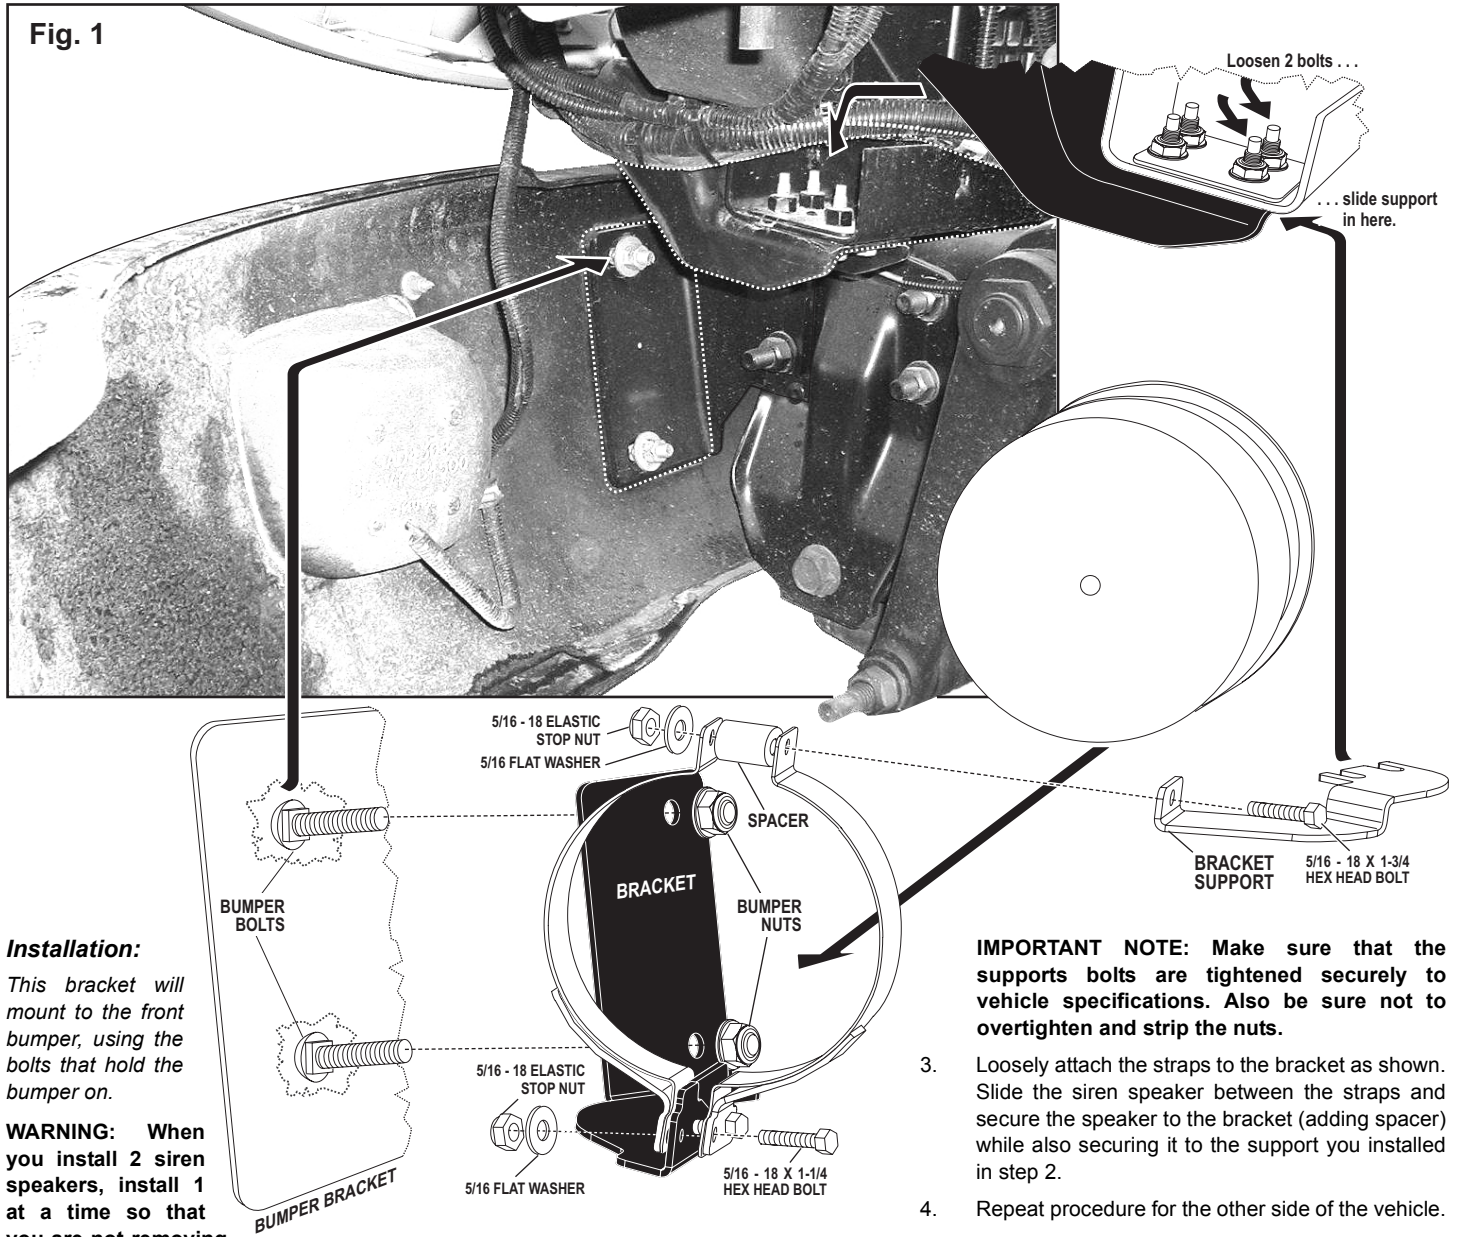

Fig. 1
2. Next install the bracket support. Loosen the 2 rear bolts that secure the hood latch to the vehicle (Fig. 1) just enough to slide the support underneath. The slots in the support fit around 2 of the bolts you loosened. Tighten the 2 bolts to secure the support.